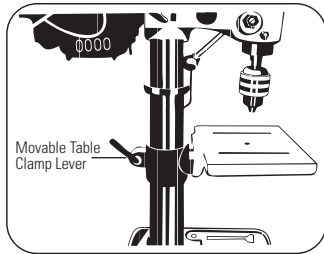

FIGURE 8.9
- To connect the crank to the toothed rack, loosen the Table Lever (Figure 8.9), lift or lower the table by turning the crank.
- When the desired height is reached, tighten the Table Clamp Lever firmly so that the Table **7** does not move (Figure 8.9).
- Loosen the Table Clamp Lever (Figure 8.9).